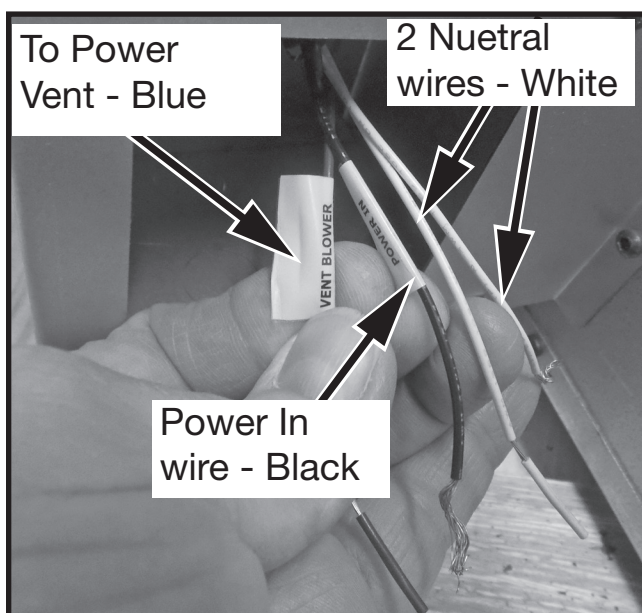

Figure 29: Junction box wiring.
5. Connect 110 V. AC electrical supply to the wires installed inside the junction box (Figure 29). The fireplace is rated at 110 volts, 60Hz, 0.25A. The power vent kit is rated at 115 volts, 60Hz, 1.8A. The wiring for the power vent is also accessed here.